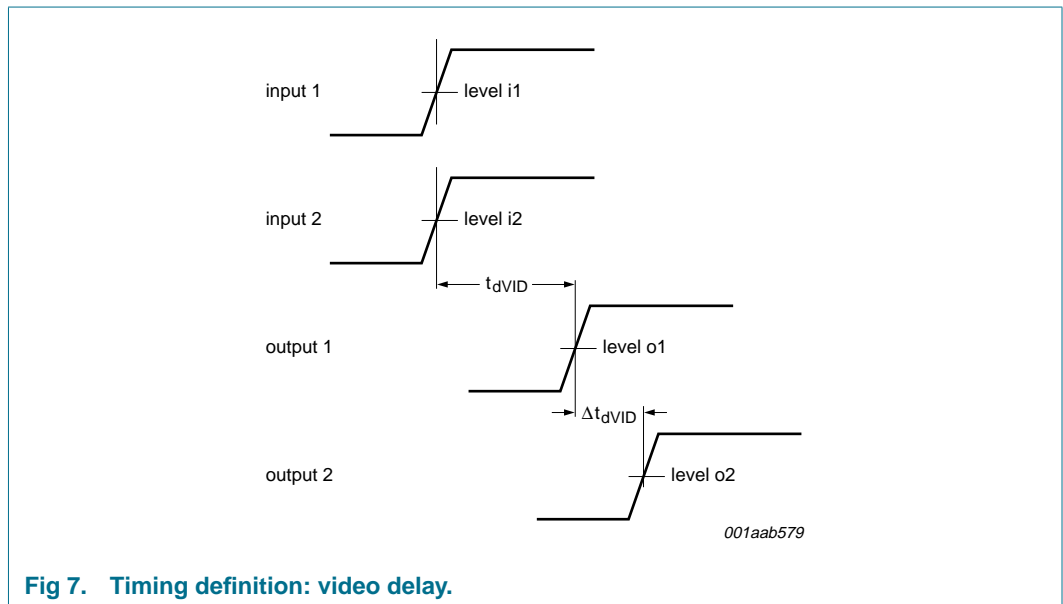

Fig 7. Timing definition: video delay.
- [7] The video delay between input and output and delay differences are illustrated in Figure 7. Inputs 1 and 2 are either fast blanking input plus a video signal or two video signals. The amplitude of the video signal is 0.5 V (p-p). The video signal levels (i1, i2, o1 and o2) are 50% of the video amplitude. The fast blanking signal levels (i1 and o1) are 1.2 V when the signal rises and 0.5 V when the signal falls.